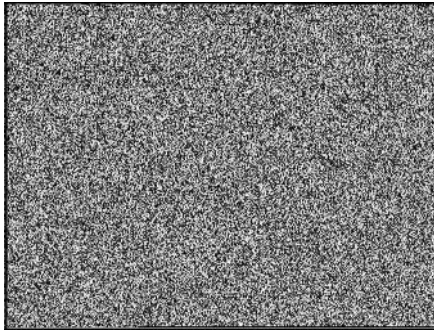

Figure 24
2. Remove retainer (A, Figure 24), return spring (B), flat washer (C), wave washer (D), pinion gear (E), and starter clutch (F).